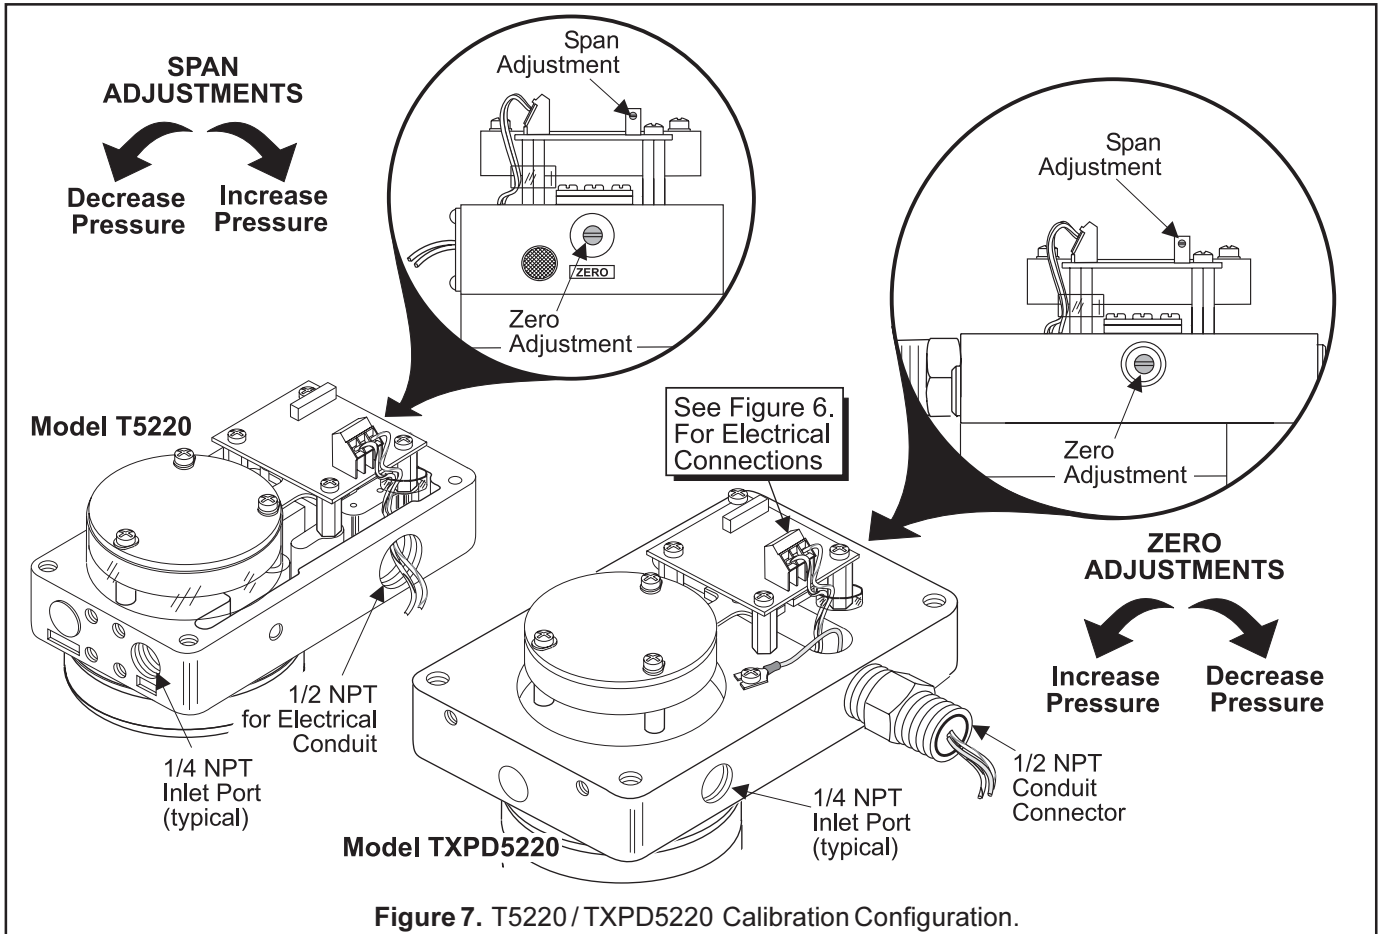

Figure 7. T5220 / TXPD5220 Calibration Configuration.
For the T5220 Transducer, make connections to the Terminal Block through a 1/2 NPT Conduit Connector (not supplied) and a plastic sleeve as shown below in Figure 7. "Electrical Connections".
For the TXPD5220 Transducer, make connections from the Sealed Connector Wires to an external Terminal Block. The TXPD5220 Transducer has an additional ground wire that is used. For more information, see Figure 7. "Electrical Connections" below.
4. Repeat steps 2-3 until the desired output range is obtained. For more information, see Figure 7. "T5220/ TXPD5220 Calibration Configuration."